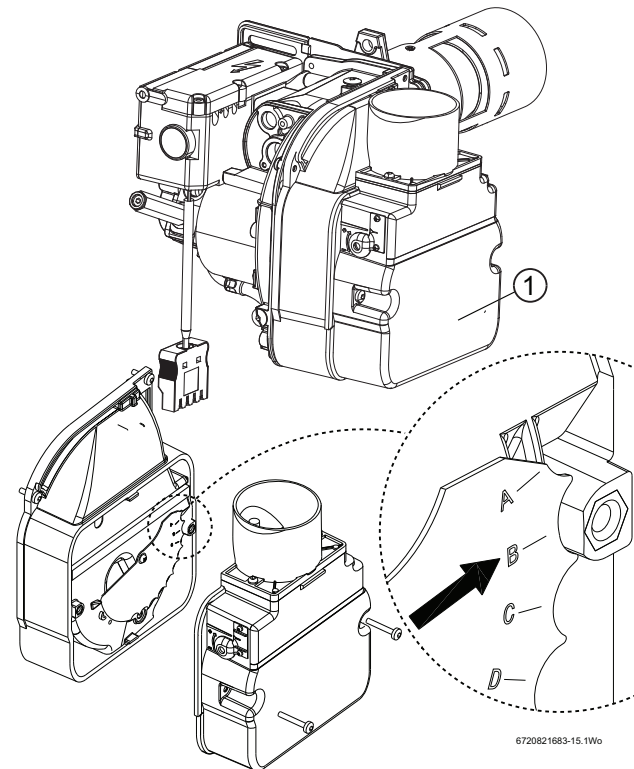

Fig. 61
Adjust position of the air damper disc to suit the burner output (→ table 9 on page 39), located as shown in figure 61. Access is by removing the two screws (SC) to release the air inlet manifold [1].